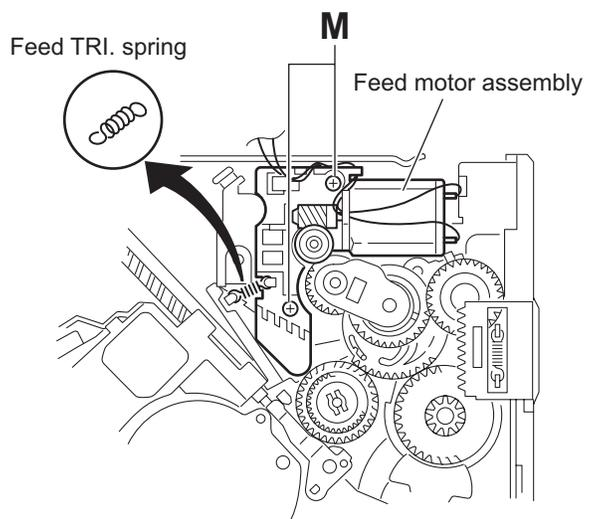

Fig.21
3.2.11 Removing the feed motor assembly (See Fig.21 and 22)
- Remove the feed TRI. spring on the bottom of the body. (See Fig.21.)
- Remove the two screws **M** attaching the feed motor assembly. (See Fig.21.)